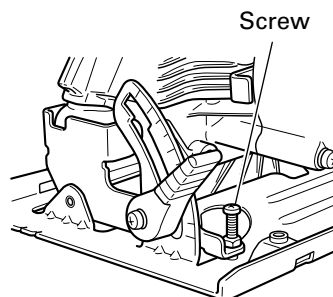

Fig. 22
- 2) Apply a square to the base and the saw blade end, turning the screw with screwdriver, shift the position of the base to produce the desired right angle. (Fig. 22)